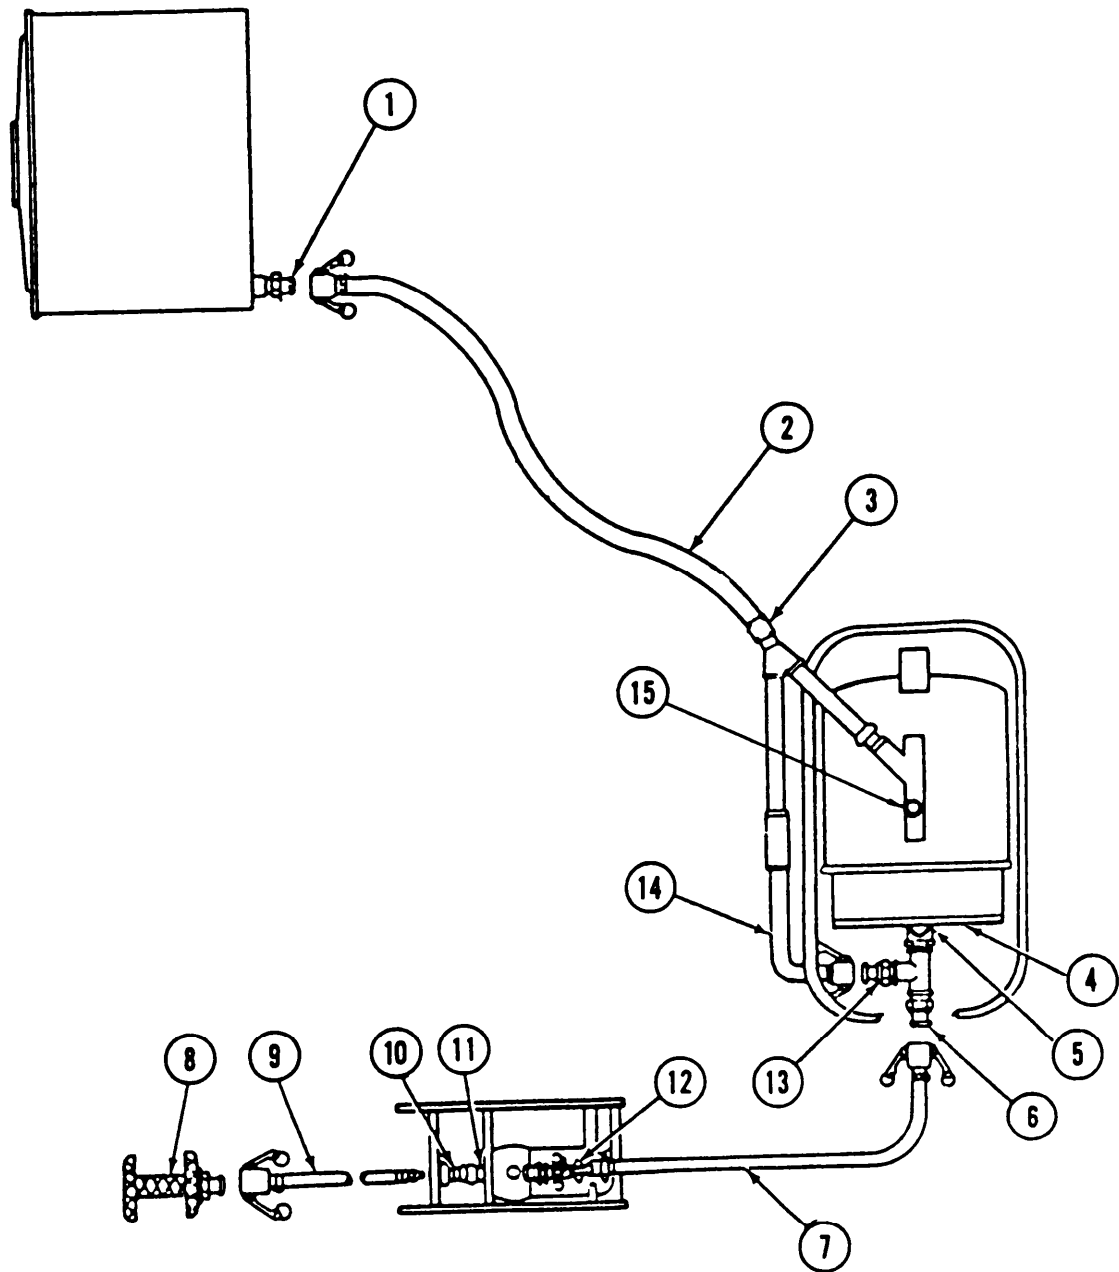

Figure 2-9. Water Hose Connection Diagram
- (1) Remove two bolts (5) and remove bracket assembly (4).
- (2) Remove two bolts (3) and remove bracket assembly (2).
- (3) Remove water pump (1) and locate it no more than 10 feet (3m) from the water source.
- (4) Install brackets (2) and (4) and tighten bolts (3) and (5) removed in step (2).
- (5) Connect suction hose (9, figure 2-9) to suction inlet (10).
Ensure that water hoses (7 and 9, figure 2-9) do not touch or cross other water hoses, exhaust ducts, power cables, or fuel lines. Melting/damage can occur causing leaking fuel and water or electrical hazards. Death by electrocution, fire, or explosion could result.